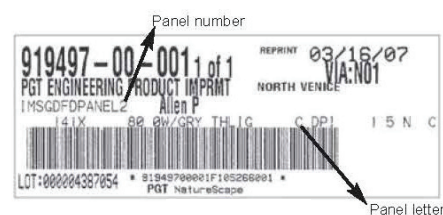

Figure 29
- Shipping labels on panels will have the panel # and letter name on them; they will be installed in order from left to right. Please see the configuration page for the proper track the panel goes into. (See Figure 29)